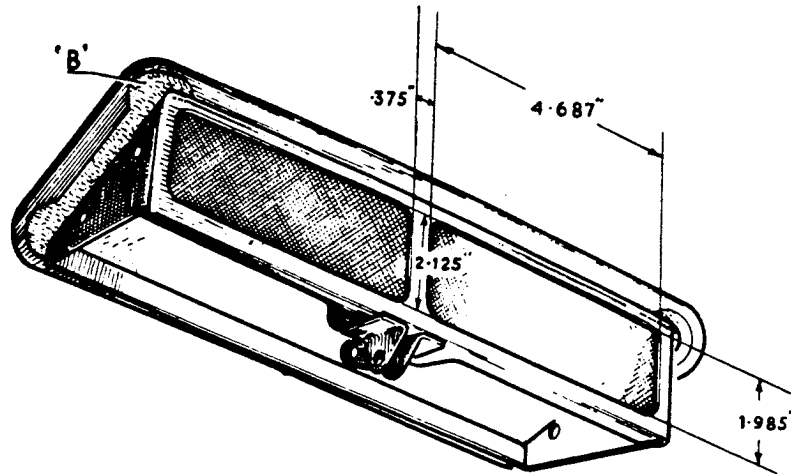

Fig. 2.
- (iii) With a pair of shears or a hack-saw open out the two intake holes and file to the dimensions shown in Fig. 2. leaving the double thickness of metal down the central division.
- (a) Thoroughly clean the underside of the lid and fill in the depression at each corner with solder to surface level, ('B', Fig. 2). Also fill in the channel running along the two sides, which lead into each corner. Face off the solder as necessary until it is flush all the way round.